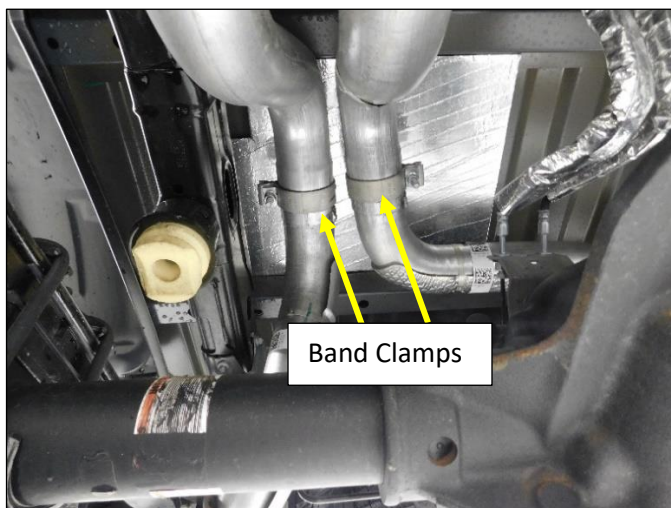

Figure 1
2. Loosen the 15mm nuts on the tailpipe band clamps directly over the rear axle. (Non-Hybrid shown) **Fig. 1**